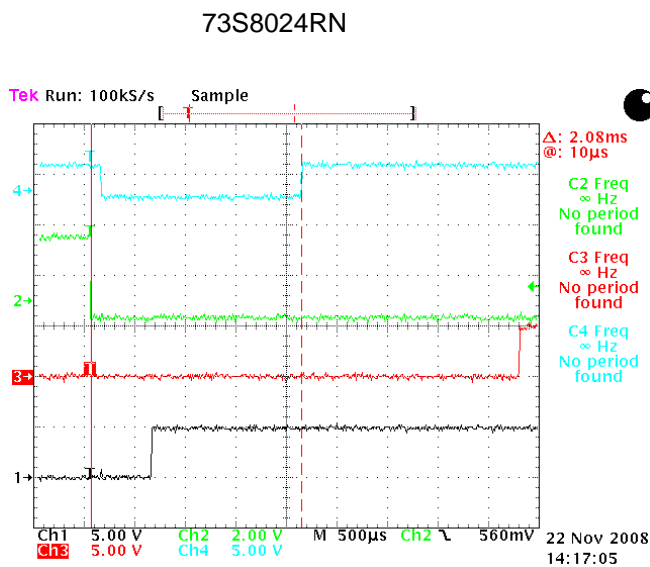
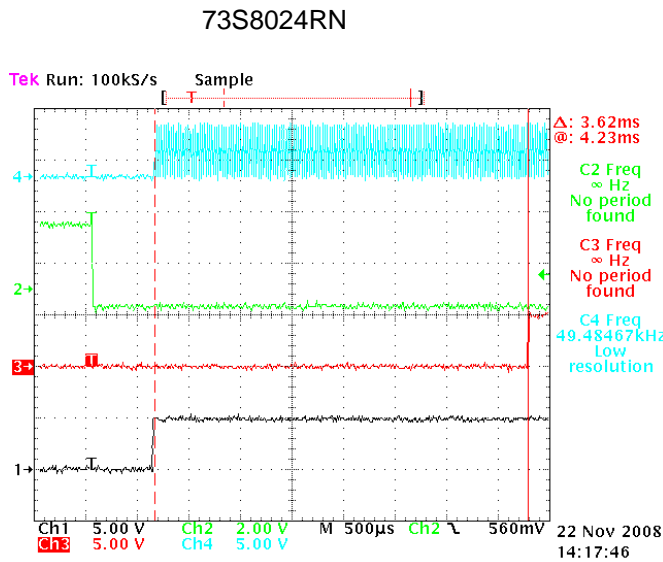

Figure 18: 73S8024RN, Case 3, Legend A
Figure 20: 73S8024RN, Case 3, Legend B
- Case 3: RSTIN is high before T0, goes low before T1 and goes high after T1. See Figure 18 through Figure 20.